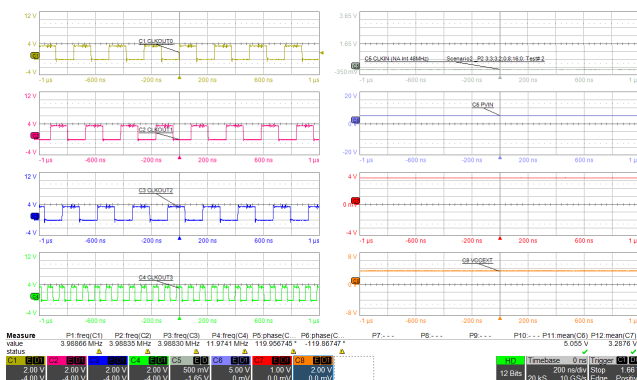
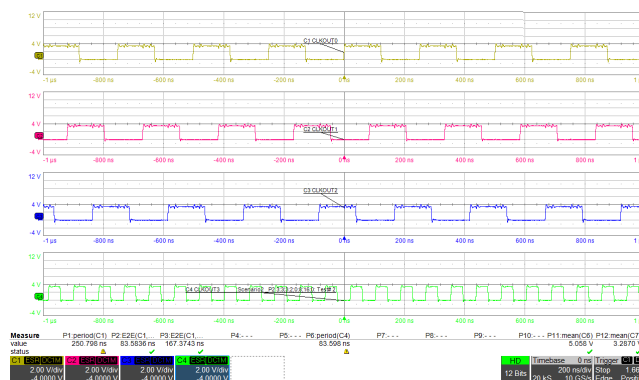

Figure 18. Example Scenario 2: Frequency and Phase
Figure 19. Example Scenario 2: Period and Delay
- Scenario 2 (Figure 18 and Figure 19) – Three outputs have the same frequency, one output at a different frequency